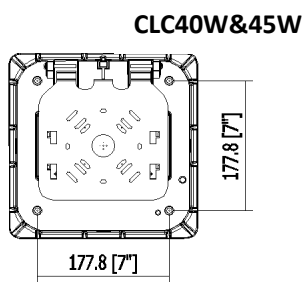

FIG.6
2. According to the figure will be opening of lamps and lanterns, and according to the figure on the ceiling mounting holes FIG.6,7